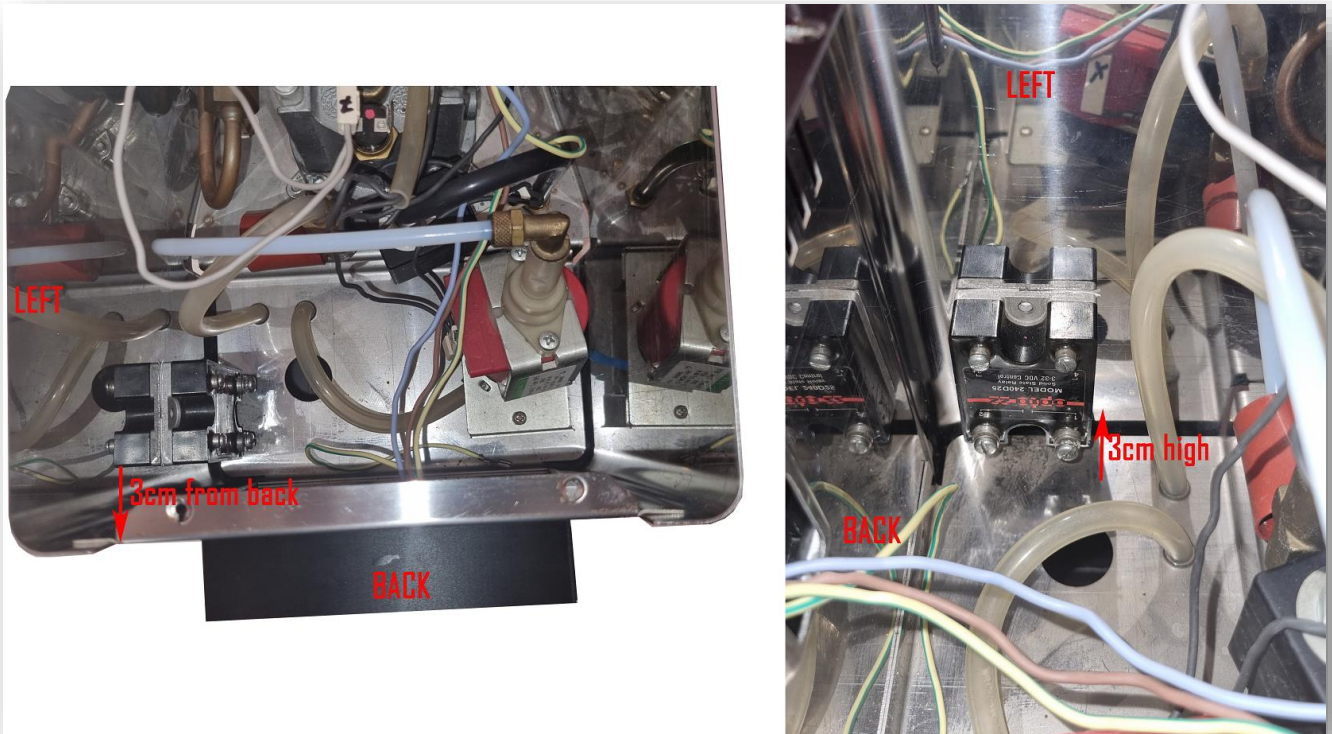

Fig. 5.3
- Prepare to glue the relay inside. Mounting position will be to the back left side at 3cm high from the inside floor and 3cm from the back, looking from the behind the machine . (fig. 5.3)